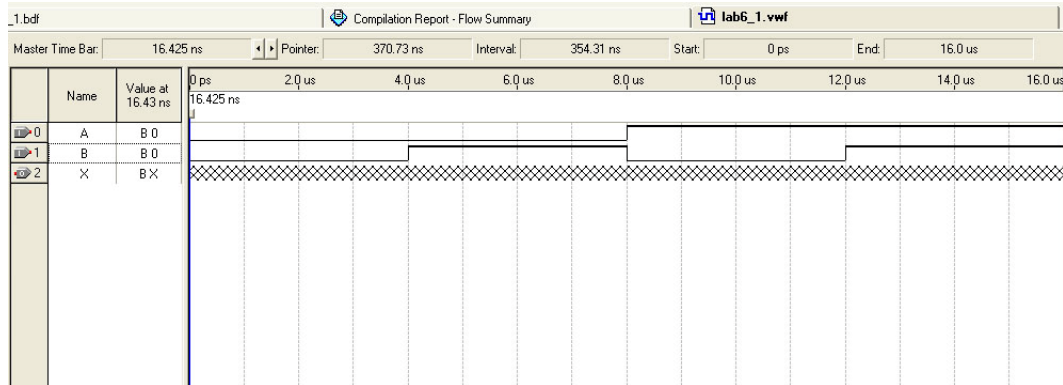

Figure 6-15
28. In order to test all of the possible combinations for our two inputs we need to create a series of timing waveforms that step through all 4 possible combinations of input logic levels. The easiest way to do this is to form a binary counter that count from 0000 up to 0100 just like we did with a truth table. In the *vwf* file screen, left click on the first input **A**, choose **Value > Clock**, and then Enter a **period** of 16  $\mu$ s and click **OK**. To draw the **B** waveform as a clock with a period of 8  $\mu$ s, choose **Value > Clock**, and then Enter a **period** of 8  $\mu$ s and click **OK**. Then save it again. When completed, the *vwf* screen should look like Figure 6-15.